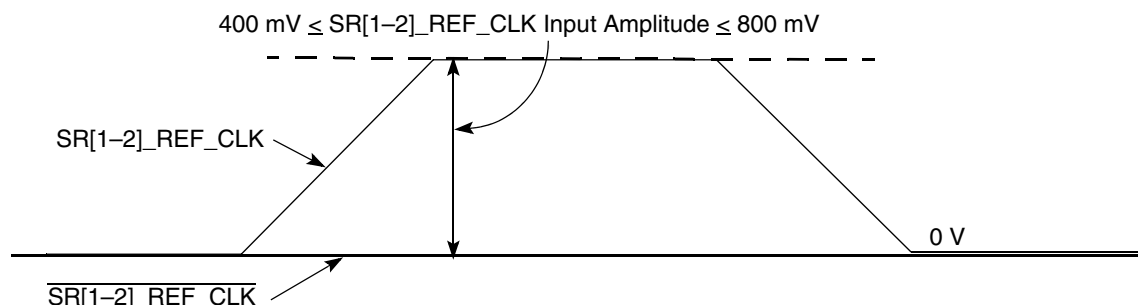

Figure 9. Single-Ended Reference Clock Input DC Requirements
- The $\text{SR}[1-2]_{\text{REF_CLK}}$ input average voltage must be between 200 and 400 mV. Figure 9 shows the SerDes reference clock input requirement for single-ended signalling mode.